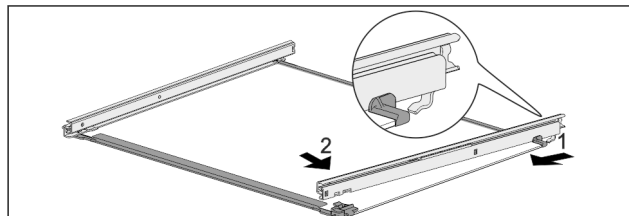

Fig. 84 Glass shelf with rails
- ▶ Hook in rail at the back. Fig. 84 (1)
- ▶ Hook in rail at the front. Fig. 84 (2)